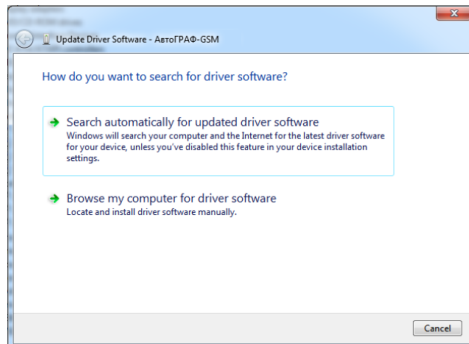

Figure 2.
4. Launch the driver update wizard and select «Browse my computer for driver software» to search for drivers manually (Fig.2).